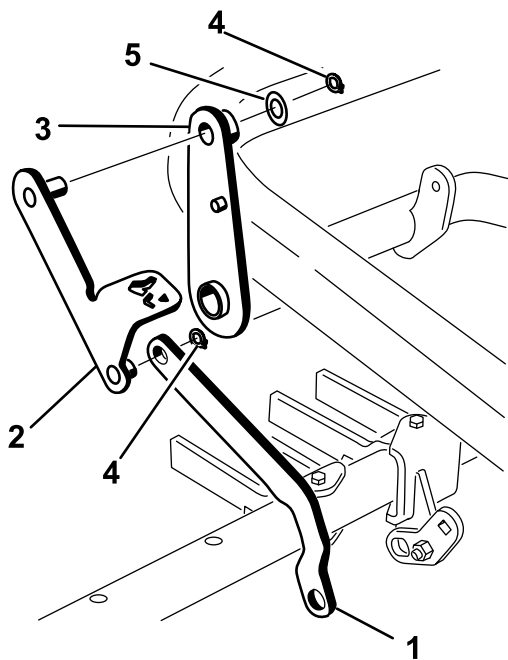

Figure 15
3. Slide the end of the toolbar link over the short post on the pedal lever assembly, and secure it with a retaining ring (Figure 15).
4. Install the post on the other end of the pedal lever assembly through the top of the lever assembly, and secure it using a washer (7/8 inch) and a retaining ring (Figure 15).